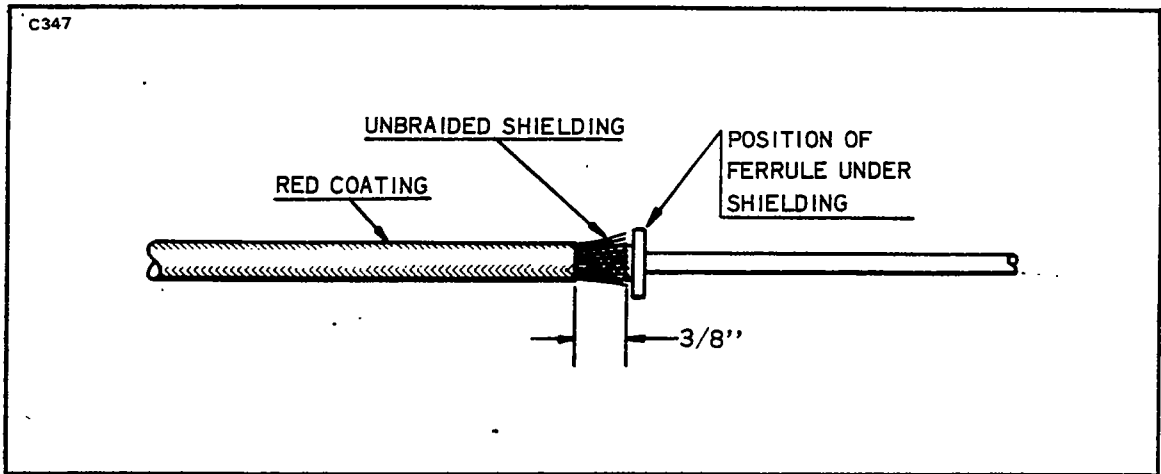

Figure 8A-24. Forming Shielding Around Ferrule
11. Pass the taped end of new lead through hole in outlet plate. Remove electrical tape from lead and install tapered end of ferrule under the unbraided strands of shielding. Form strands of shielding evenly as shown in Figure 8A-24 and pull lead assembly back through cable outlet plate until ferrule binds in the outlet well. Position the Scintilla 11-7074 Ferrule Seating Tool (Figure 8A-25) over the wire and firmly seat the ferrule by tapping the seating tool with a hammer or by using an arbor press.